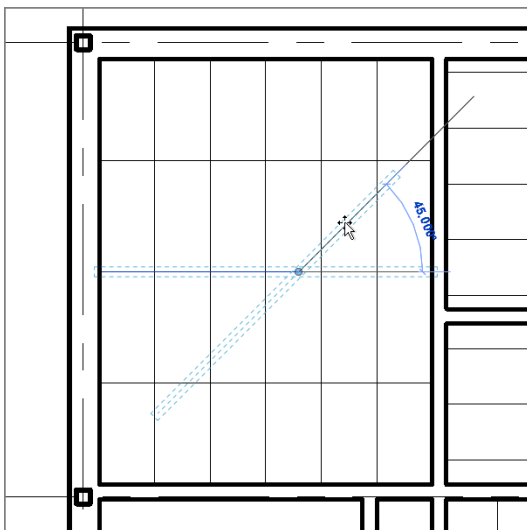

FIGURE 9.8: The rotate process
4. Rotate the grid 45° by using the two-pick method, as shown in Figure 9.8.